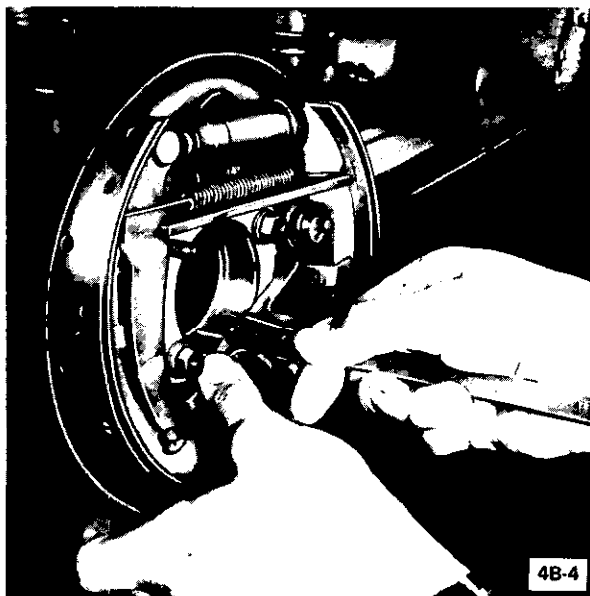

Figure 4B-4 Measuring for Axle Shaft Bearing Depth
- a. Using a depth gauge, measure depth of rear axle bearing seat in axle housing (backing plate and gaskets in place). See Figure 4B-4.